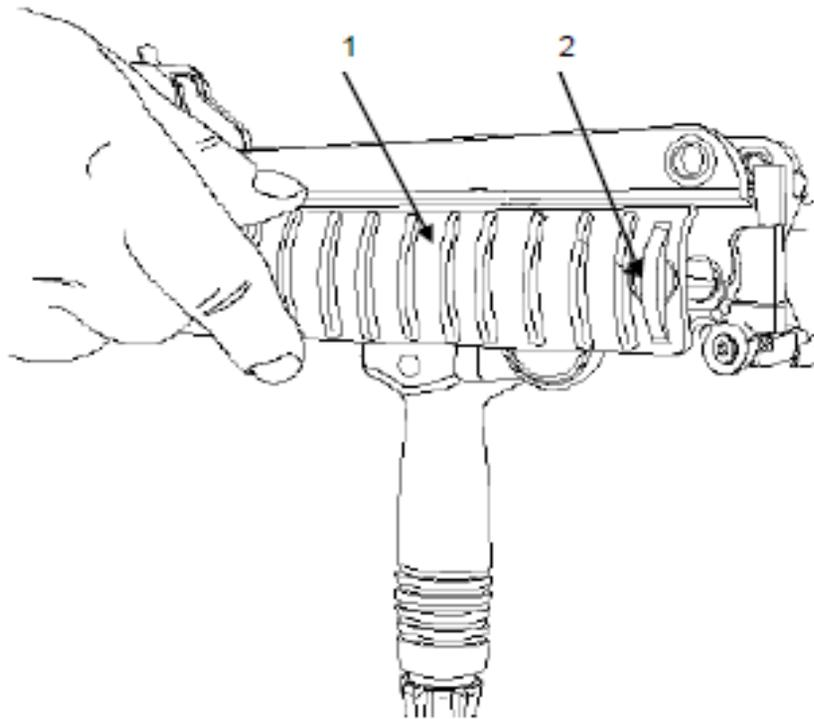

Figure 1. Rail Assembly
1. Rail covers (Figure 1, Item 1) are quickly removed and detached from the accessory rail. A retaining clip (Figure 1, Item 2) at one end of each rail cover (Figure 1, Item 1) automatically engages cutouts positioned at either end of the three rails sections. To remove side rail covers (Figure 1, Item 1), slide forward while applying thumb pressure to the retaining clip (Figure 1, Item 2). Remove bottom rail cover (Figure 1, Item 1) to the rear while applying thumb pressure to the retaining clip (Figure 1, Item 2).